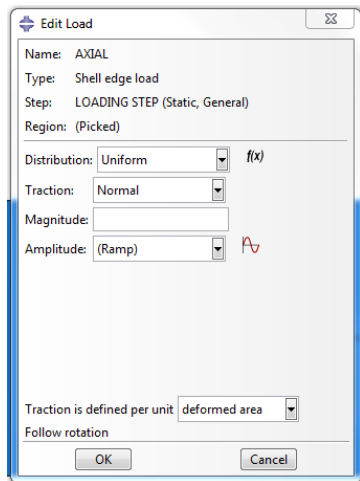
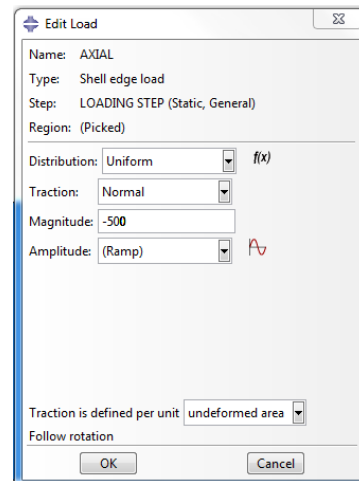

Figure 30a. Edit Load Dialog Box
Figure 30b. Edit Load Dialog Box (AXIAL)
- Click **Done**. The **Edit Load** dialog box will immediately appear (Figure 30a). Under **Magnitude** enter **-500**, under the **Traction is defined per unit** dropdown menu choose **undeformed area**. The **Edit Load** dialog box should look similar to Figure 30b.